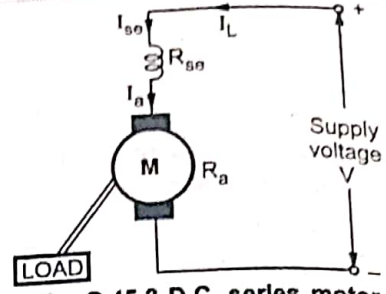

Fig. Q.45.2 D.C. series motor
2. D.C. Series motor : The series field winding is connected in series with the armature and the supply, as shown in the Fig. Q.45.2.